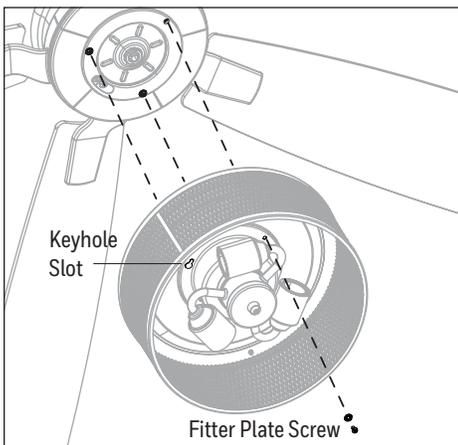

Figure 5.7
- Lift the light kit and place the two keyhole slots in the light kit over the two loosened fitter plate screws. Turn the light kit counterclockwise and secure it to the fitter plate with the previously removed fitter plate screw. Tighten all three screws (Figure 5.7).